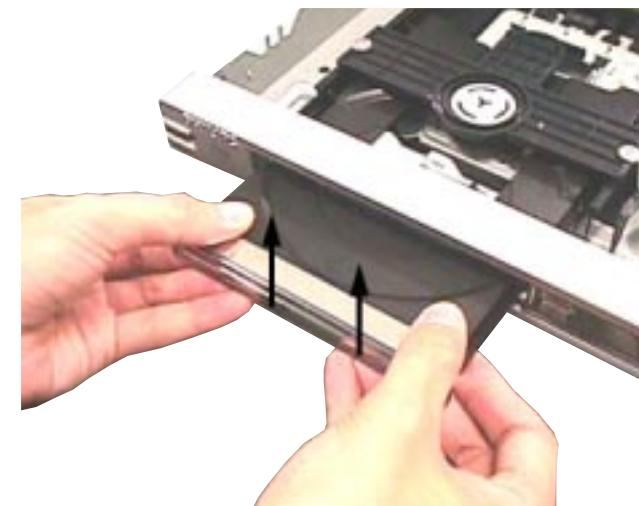
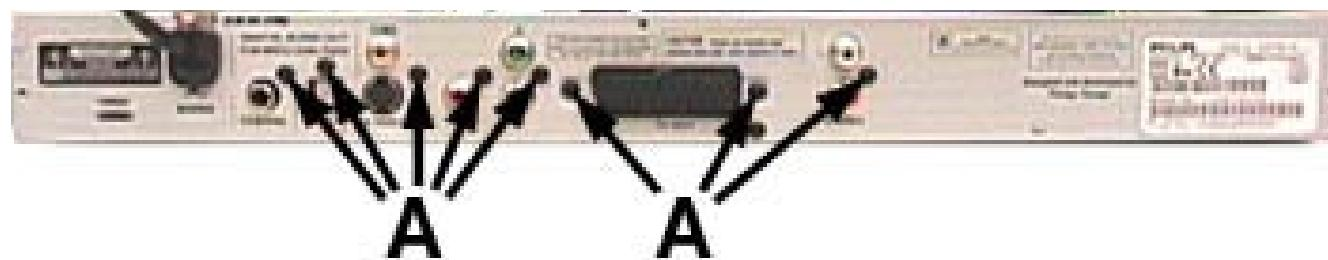
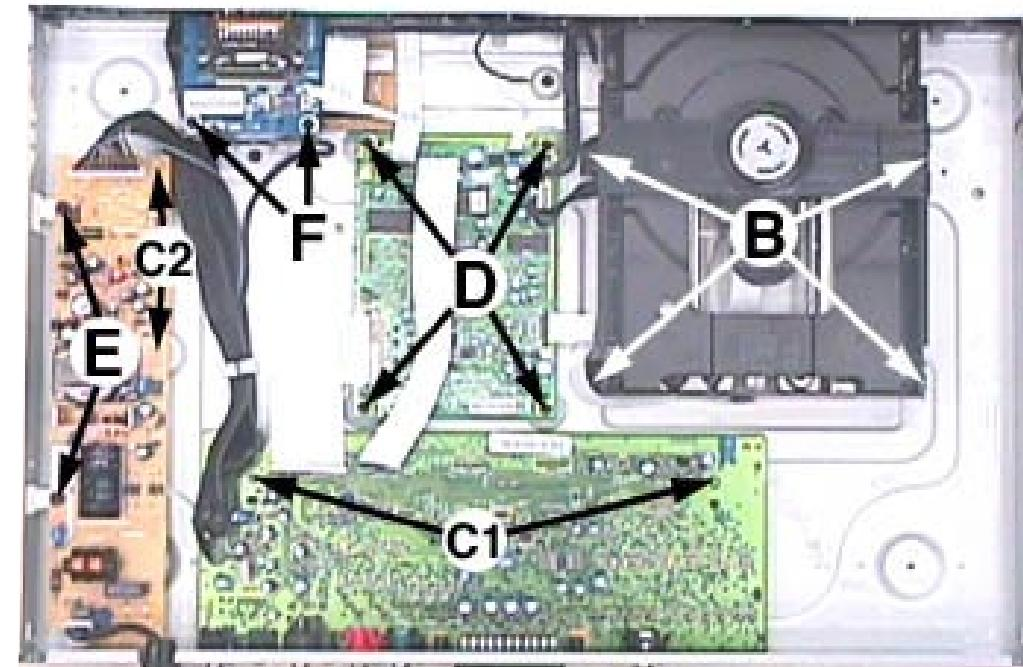

Figure 2
Figure 3
Figure 4
- 2) Slide out the tray and remove the Tray Front assembly (pos 110 + pos 111) as shown in Figure 2.
- 3) Loosen 5 screws to remove the Cover Top (pos 240).
- 4) Loosen 4 screws B (see Figure 4) to remove the DVD Loader.
- 1) Loosen 8 screws A (see Figure 3) and uncatch 2 catches C1 (see Figure 4) to remove the AV Board (pos 1001).
- 2) Loosen 4 screws D (see Figure 4) to remove the SD6.1 PL 2CH Board.
- 3) Loosen 2 screws E and uncatch 2 catches C2 (see Figure 4) to remove the PSU Board (pos 1004).
- 1) Loosen 2 screws F (see Figure 4) and 2 screws G (see Figure 5) at the bottom to detach the Front Cabinet assembly from the Bottom Frame (pos 161) by sliding it out towards the front.